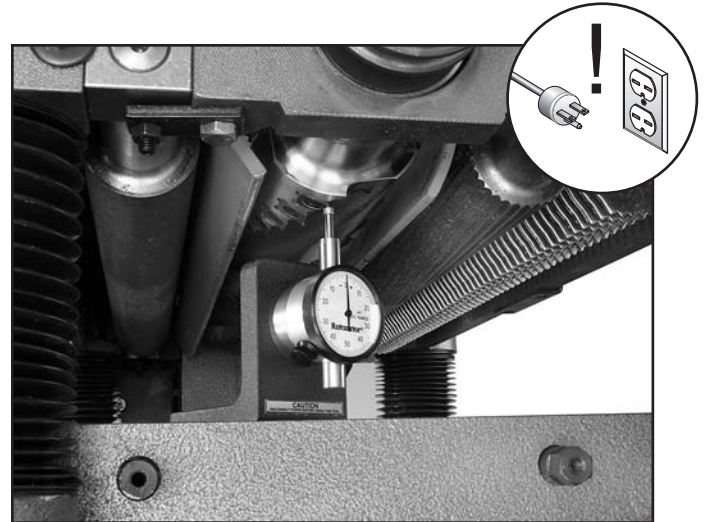

Figure 27. Finding BDC with the Rotacator.
5. Using your Rotacator, find BDC of any carbide insert edge by slowly rocking the cutterhead pulley back and forth, and set the Rotacator dial to zero, as shown in **Figure 27**.